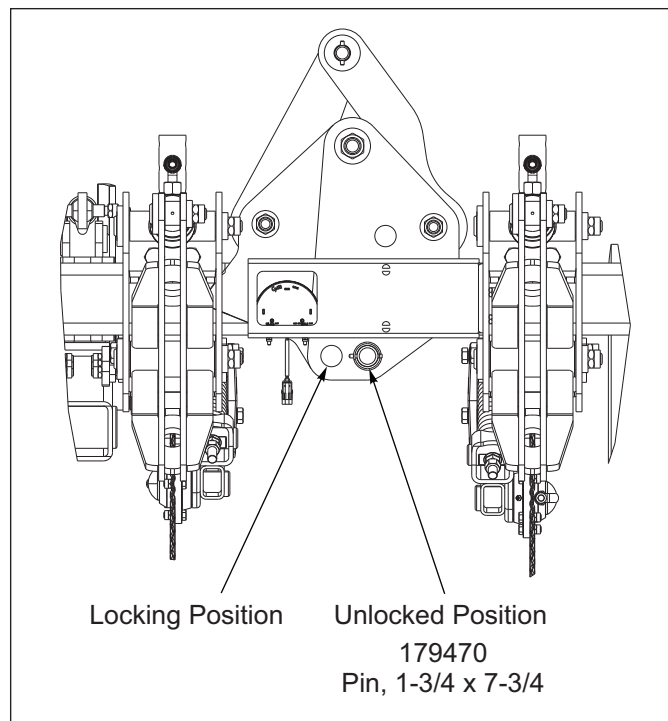

Figure 4-6: Folding Frame Wing Lock
6. To lock the Wing Assembly down, remove the pin from the unlocked position, and into the locking position. See Figure 4-6.
The wing fold hydraulic system **MUST** be operated in float once the wings are unfolded **OR** the wings **MUST** be locked down. Failure to do so may result in wing fold cylinder damage. See Figure 4-6.